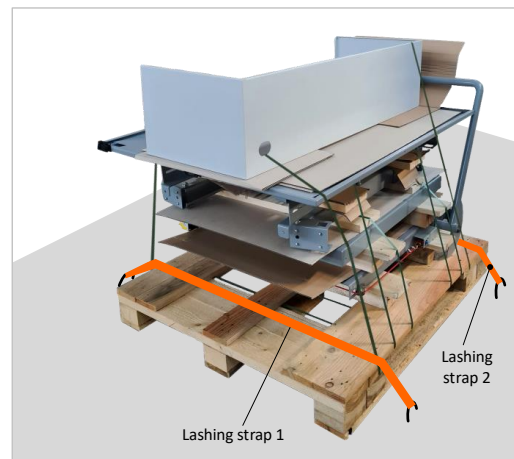

Figure 13: Lashing additional components
- Additional components such as the two roller conveyor tables as well as the upper machine cover and upper bandsaw door must be packed separately and lashed down on an additional transport pallet (see ⇨ Figure 13).